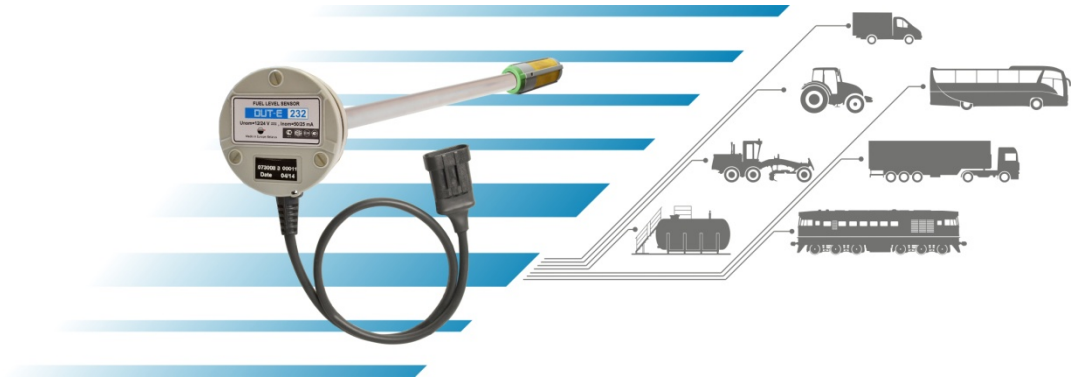

Figure 2 — DUT-E purpose of use
**DUT-E** is designed to measure level of liquid fuel and other nonconductive liquids in vehicle and stationary tanks (see Figure 2).